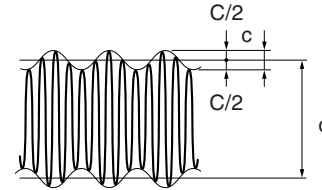

Fig. 3
- ③ Set the oscilloscope to 0.5 V/div, 5 ms/div and reset the (TIME/DIV) while moving the scale at a speed of 1 to 10 m/min so that the waveform shown in Fig. 3 can be observed.